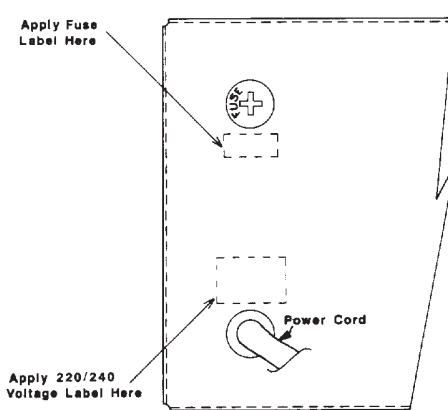

Figure 3. Location of Voltage Stickers for 220/240 V Installations
6. Affix the appropriate fuse label over the original silkscreened designation. Refer to Figure 3. Apply the 4 Amp label to the 1415A. The 1407A requires the 2 Amp label. The appropriate label is included with each amplifier.